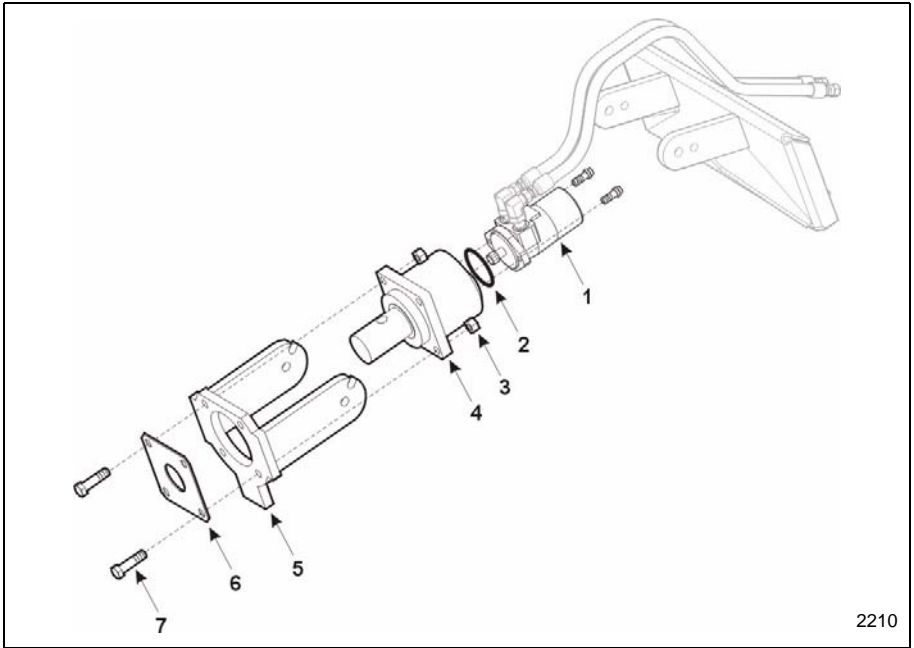

Figure 1-17 Replacing Auger Final Drive
1. Separate the hydraulic drive motor (Item 1, Figure 1-17) and O-ring (Item 2, Figure 1-17) from the planetary auger drive (Item 4, Figure 1-17). See Hydraulic Motor Replacement earlier in this manual.
2. Remove the four bolts (Item 7, Figure 1-17) and nuts (Item 3, Figure 1-17), releasing the auger final drive from the auger mounting weldment (Item 5, Figure 1-17).
NOTE: The auger drive spacer (Item 6, Figure 1-17) will fall free. Keep this part for reassembly.